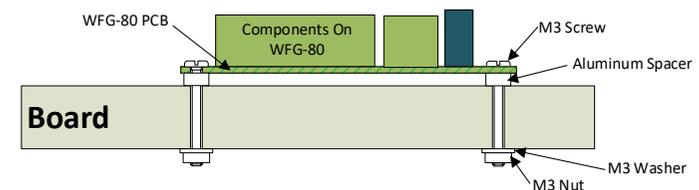

Figure 6 Mounting Suggestion
- (6) Mount the unit to your baseboard using the four M3 metric screws, nuts and spacers provided. Mount the unit on a suitable piece of board, either your baseboard (top or bottom) or a separate board perhaps at the front of your model railroad. The component side of the module should face away from the board as in Figure 6. If you omit the spacers be sure not to tighten screws so that the unit bends. Take care that no part of the unit touches any metal as this may cause a short circuit and result in permanent damage. Do not mechanically stress or bend the module as this may cause permanent damage. **Take care to ensure that there is adequate ventilation to avoid overheating.**